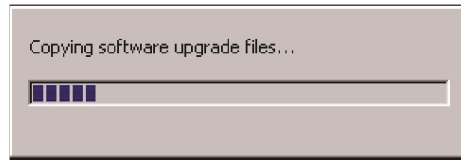

Figure 4.53 Copying Upgrade Files
1. Upgrade files are copied from the USB memory stick to the 9220 device (Figure 4.53).